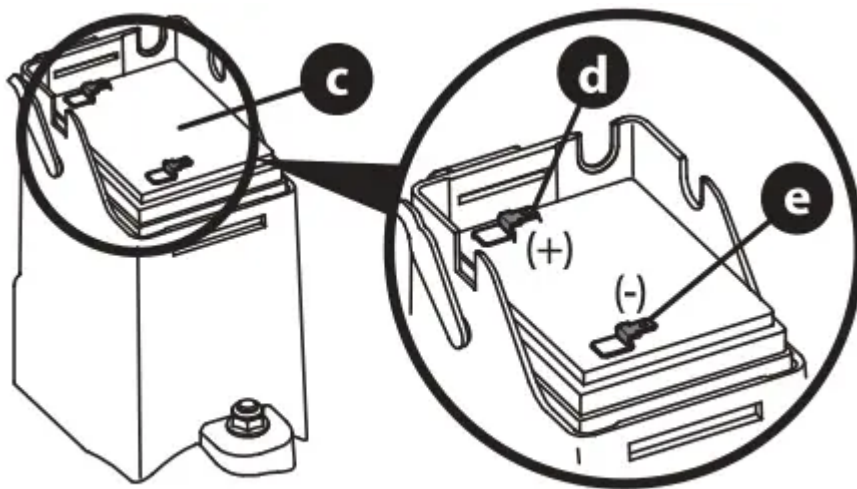

Figure 43
2. Installing the battery (Figure 43): a. b.